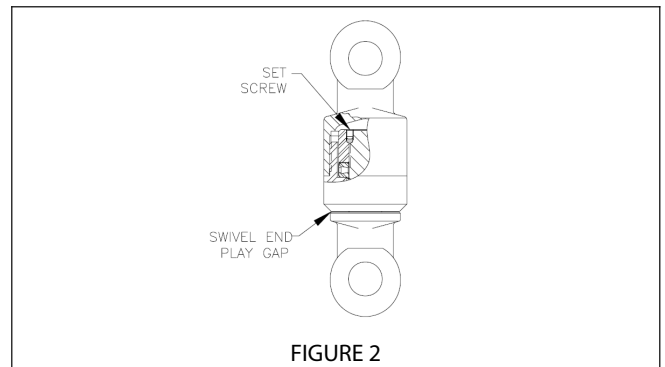

FIGURE 2
- Swivel end play gap exceeding .08". Excessive end play indicates damaged internal set screw. (See Figure 2)